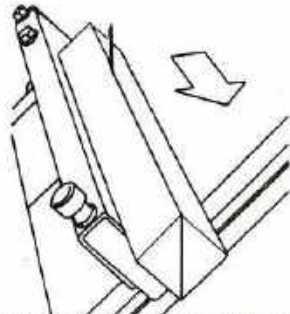

Fig.643. DIAGONAL RIPPING ON A TILTED BAND SAW TABLE
5. A square piece of wood can be split or ripped diagonally. Tilt the table to 45 degrees; push the stock along the rip fence Fig.643.